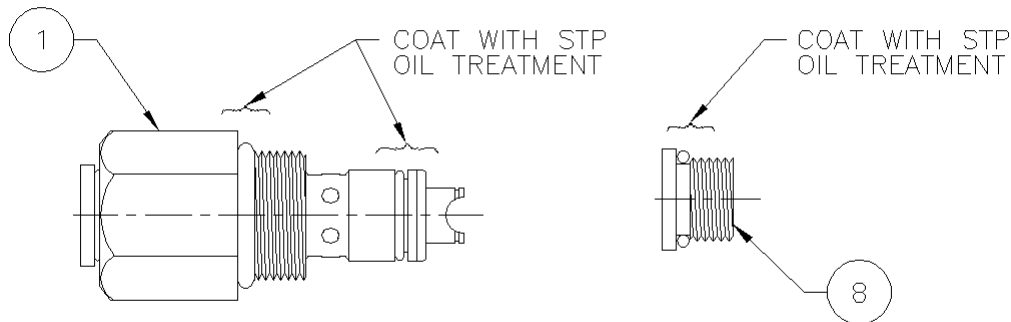
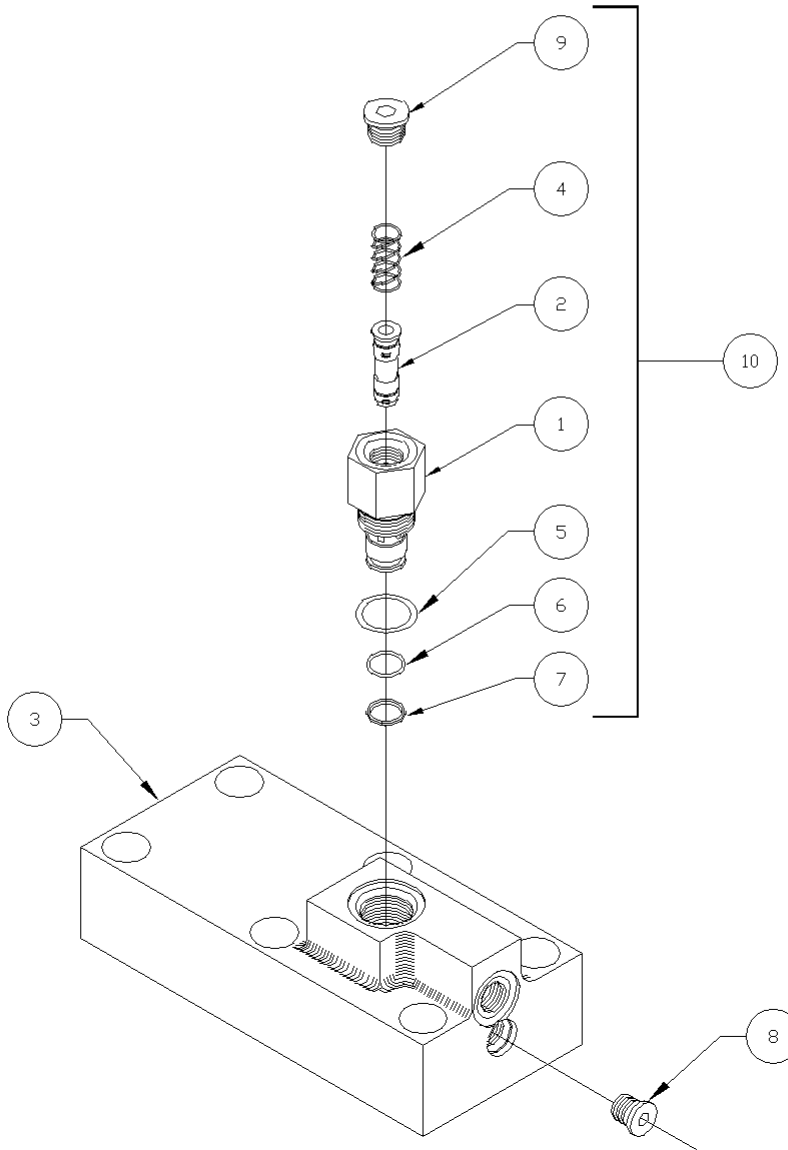

Figure D-3
Figure D-4
Before starting the assembly of the Slowdown, refer to the exploded parts drawing (Figure D-4) and parts list to familiarize yourself with the individual components. Prepare a clean surface in an area free from blowing dust and contaminants in which to assemble the Slowdown. Be sure that all parts are clean and dry before starting assembly.
- Coat the o-rings on the plunger housing (1) (Figure D-3) and the o-ring on the o-ring plug (8) with STP Oil Treatment. Screw the plunger housing (1) into the top of the rack cap (3) (Figure D-4) and tighten. Screw the o-ring plug (8) into the side of the rack cap (3) in the bottom port and tighten.